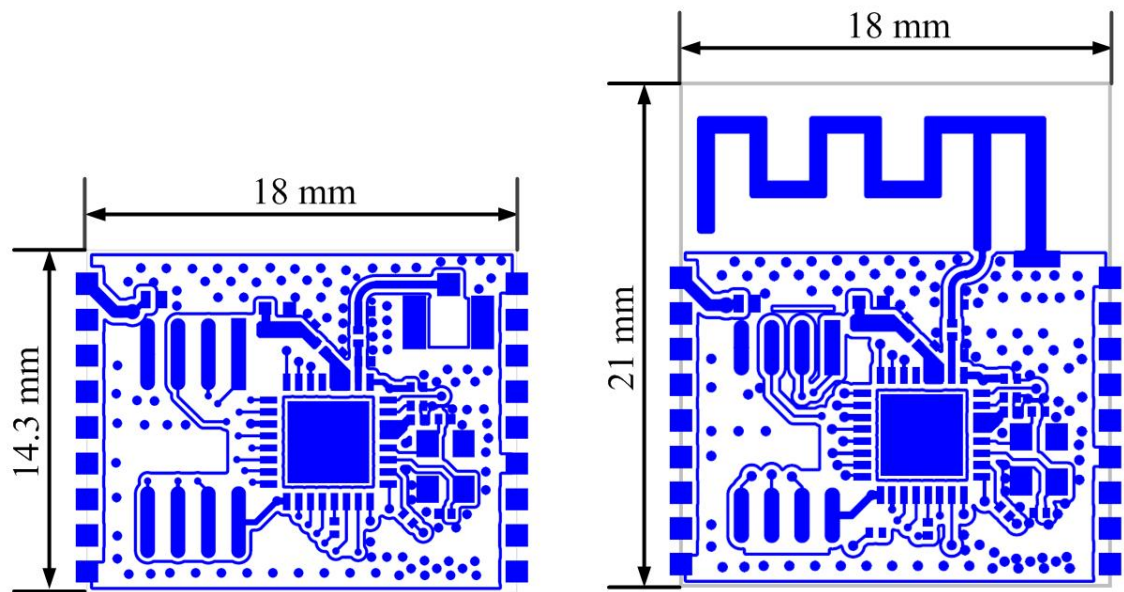

Figure 4-1 TB1206 - E appearance size figure Figure 4-2 TB1206 -p appearance size figure
TB1206 is divided into TB1206-E and TB1206 - P two types depending on the different types of antenna, TB1206 - E size of the appearance is 18 mm (W) x 14.3 mm (L) x 3.5 mm (H), Its appearance dimensions is as shown in figure 4-1, TB1206 -p appearance size is 18 mm (W) x 21 mm (L) x 3.5 mm (H), Its appearance dimensions is as shown in figure 4-2.